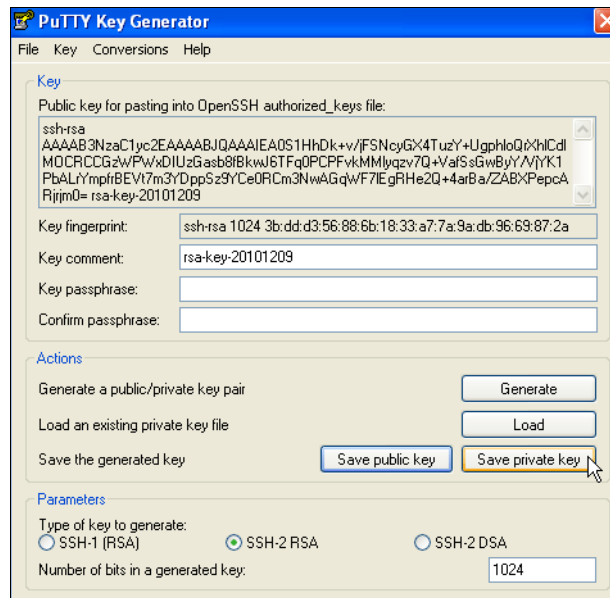

Figure A-4 Save private key
- Click **Save private key** (Figure A-4).